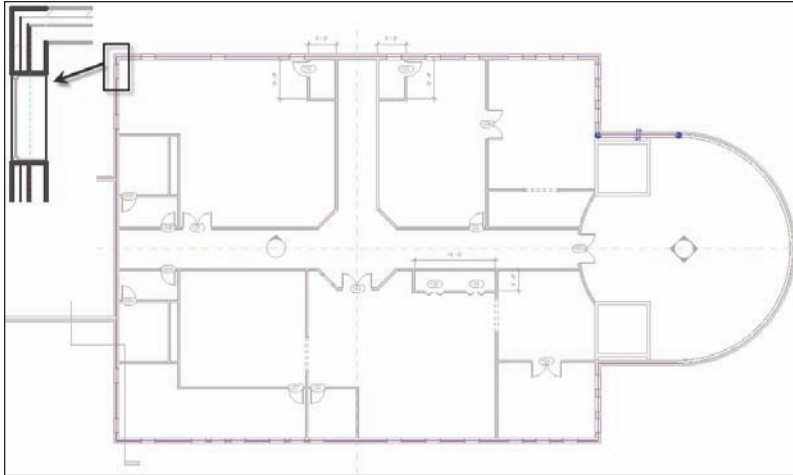

FIGURE 6.25 Picking the core centerline of the exterior walls except for the radial east wall
2. Start picking walls, as shown in Figure 6.25. *Do not* pick the radial wall at the east entry.